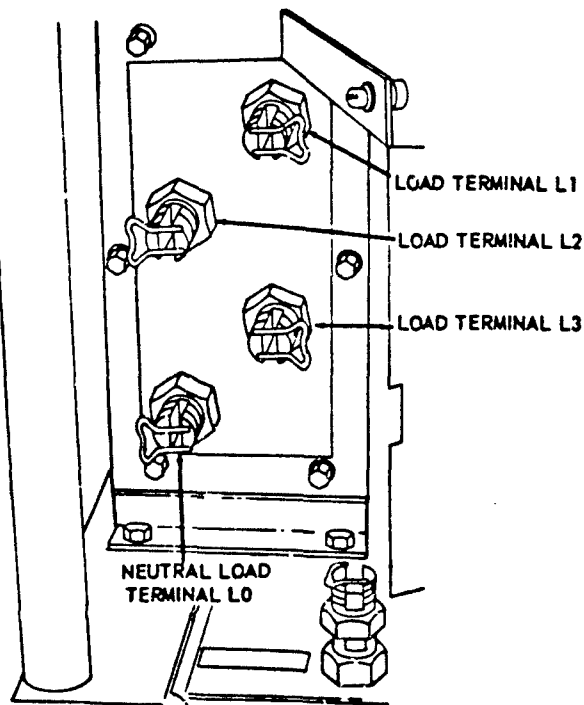

Figure 42. Generator terminals
1. Connect the green ground wire to the terminal marked L0 (Figure 42).